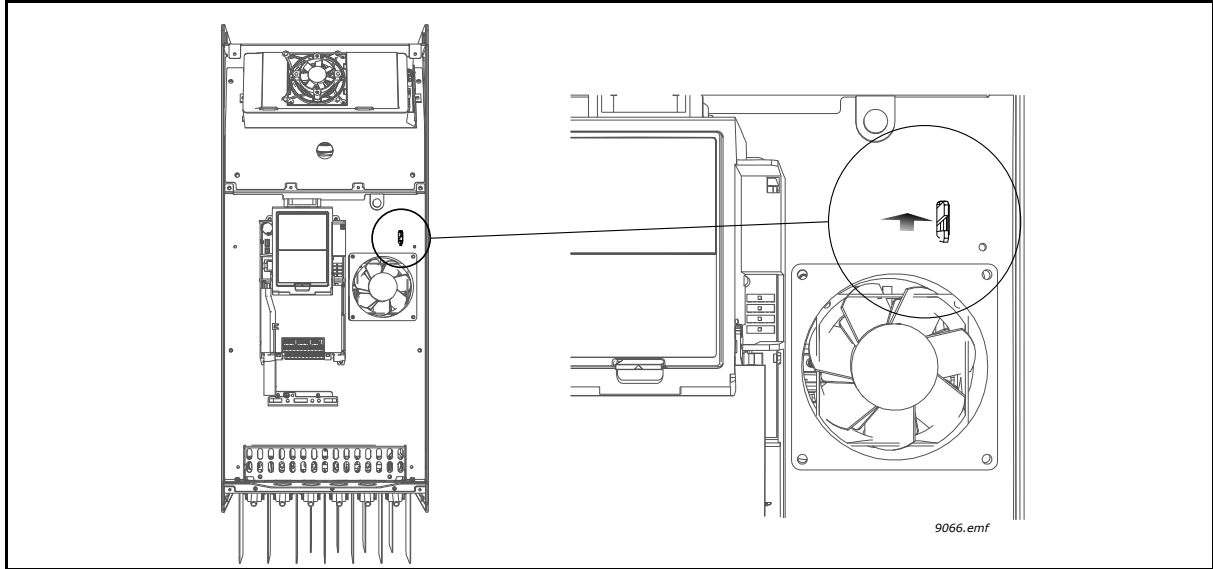

Figure 54.
- 1** Remove the main cover of the drive and locate the jumper. **MR8 only:** Push down the grounding arm. See Figure 54.